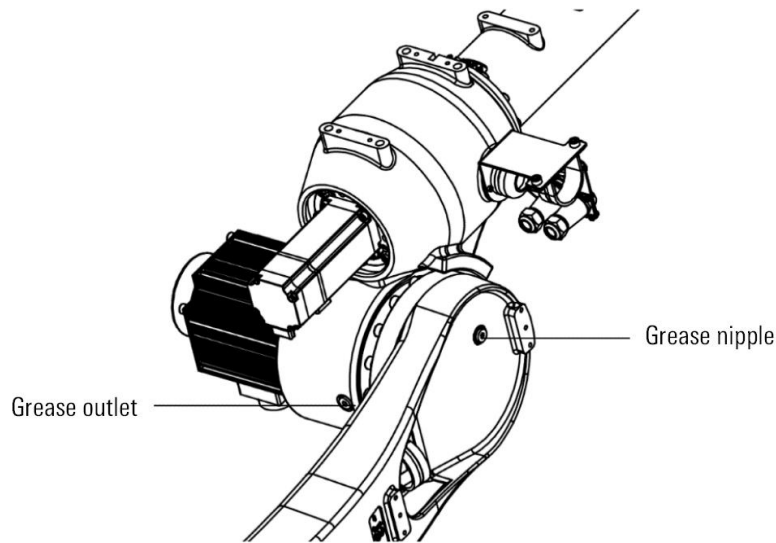

Figure 12-8 Replace the lubricating grease of J3 axis reducer
- Step4. Remove the grease outlet M10x1 plug, as shown in Figure 12-8.